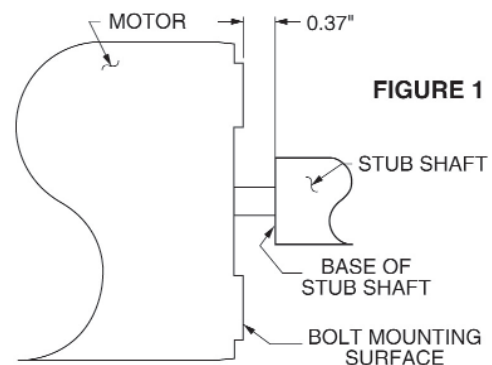

FIGURE 1
1. Liberally apply Loctite RC/680 retaining compound to the motor shaft and slide the stub shaft on, positioning the base of the stub shaft 0.37" from the bolt mounting surface of motor and two of the four set screw holes over the keyway in the motor shaft. For clarification refer to figure 1 below. Loctite aids in preventing fretting and subsequent shaft failure. Wipe off excess Loctite. Apply Loctite to the two dog point (flat point) set screws, position in the set screw holes aligned with the keyway of the motor shaft and torque to 55 - 60 in. – lbs. Apply Loctite to the two cup point set screws and torque to 85 - 90 in. – lbs.